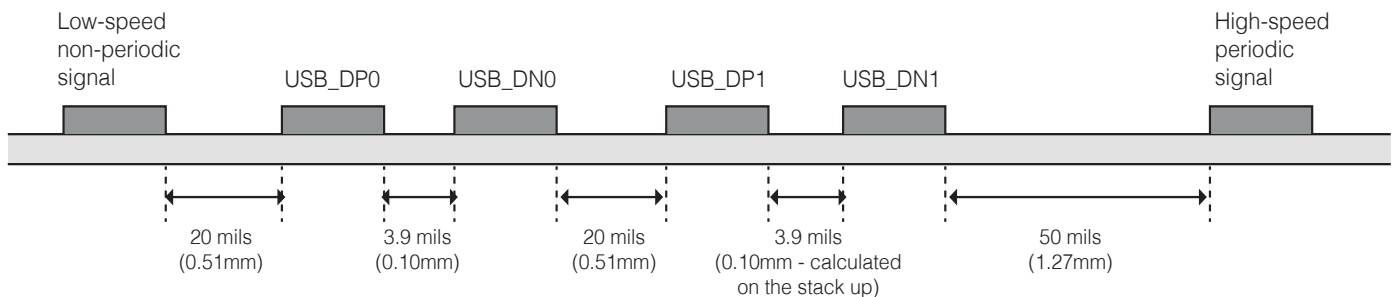

Figure 5: USB trace separation showing low speed signal, two differential pairs and high-speed clock
- High-speed clock and periodic signal traces that run parallel should be at least 1.27mm away from USB\_DP/USB\_DN (see Figure 5).
- Low-speed and non-periodic signal traces that run parallel should be at least 0.5mm away from USB\_DP/USB\_DN (see Figure 5).